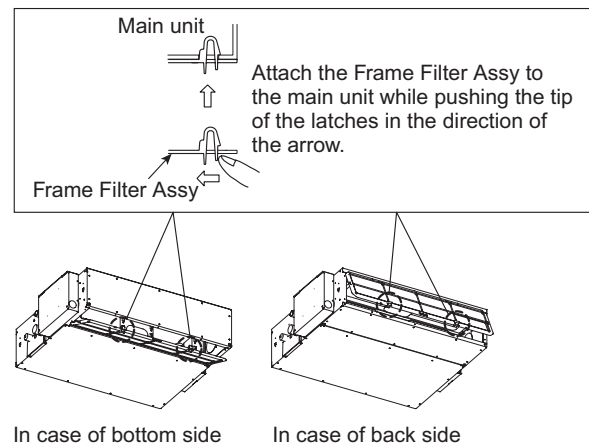

Fig. 2-97-3
- (3) Attach the frame filter assy (supplied) in the manner shown in the diagram. (Fig. 2-97-3)